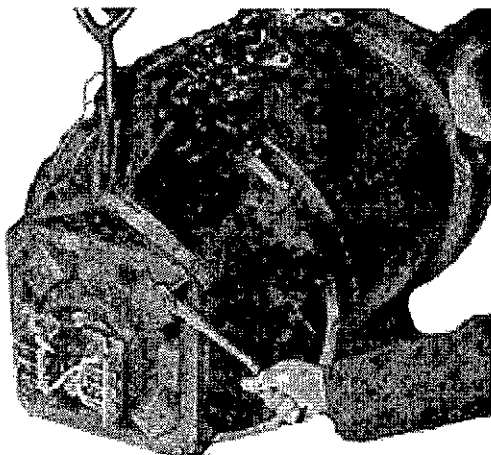

Figure 6-8
2. Remove all cable ties so the F1 and F2 leads can be removed with the exciter stator. Remove the four cap screws and Belleville washers holding the exciter stator in place. (Figure 6-8.)